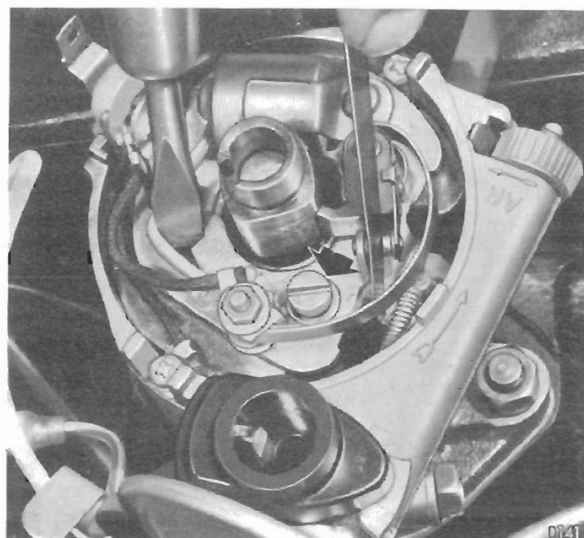

Fig. 12. Contact breaker points
**Contact Breaker Points (Fig. 12)**